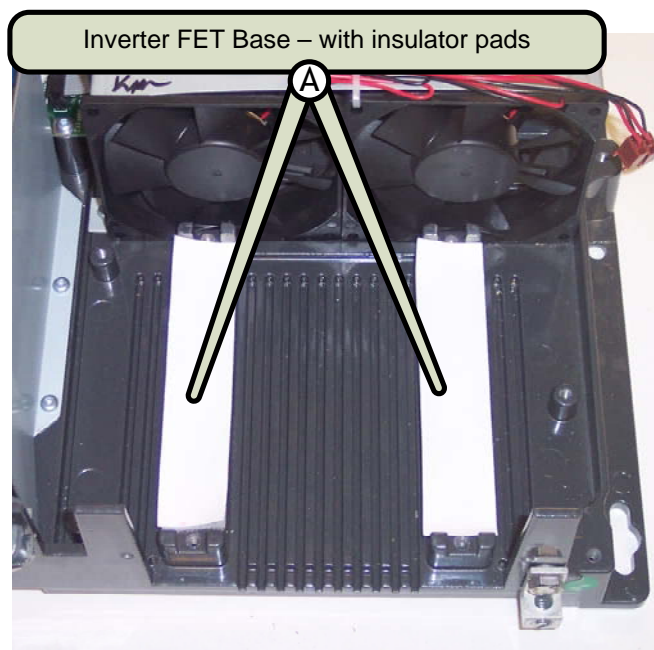

Figure 3, Inverter FET Base with T-Gon Insulator Pads
3.2.1 Place the two new T-Gon™ insulator pads on the inverter FET baseplate (see figure 3).